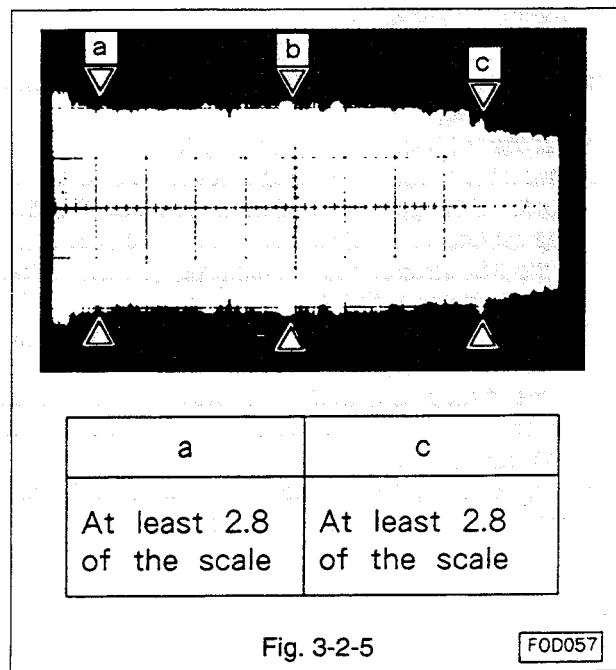

Fig. 3-2-5
(Refer to Fig. 3-2-5.)
- D. Adjust tracking so that the amplitude at the middle (around the point 'b') of the FM wave form is about 80% ('4' on the scale of the scope) of the maximum amplitude. Make certain that the amplitudes at points 'a' and 'c' satisfy the requirements given in Fig. 3-2-5.